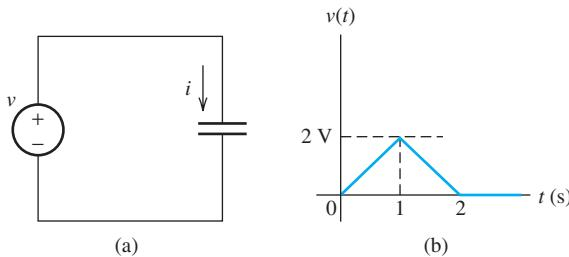

FIGURE P4.12 (a) A capacitor circuit; (b) waveform of $V(t)$.
- 4.12** (H) Suppose $C = 2$ F in the circuit shown in Figure P4.12(a) and the voltage, $v(t)$, is shown in Figure P4.12(b).